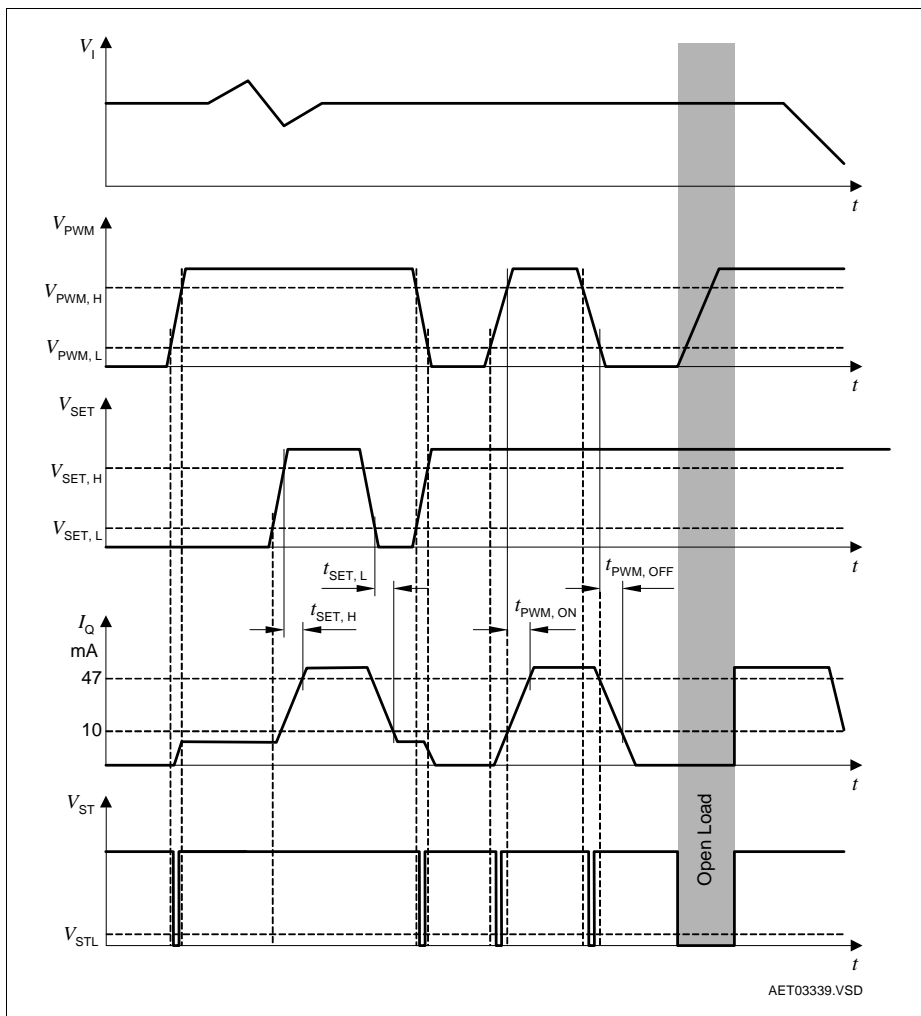

**Figure 3 Application Circuit**
**Figure 3** shows a typical application with the TLE4241GM LITIX™ Linear. The 3 LEDs are driven with an adequate supply current adjusted by the resistor  $R_{REF}$ . Thus brightness variations due to forward voltage spread of the LEDs are prevented. The luminosity spread arising from the LED production process can be compensated via software by an appropriate duty cycle applied to the PWM pin. Hence selection of the LEDs to forward voltage as well as to luminosity classes can be spared. The slightly negative temperature coefficient of the TLE4241GM output current protects the LEDs against over-temperature stress if the IC is placed nearby the LEDs.